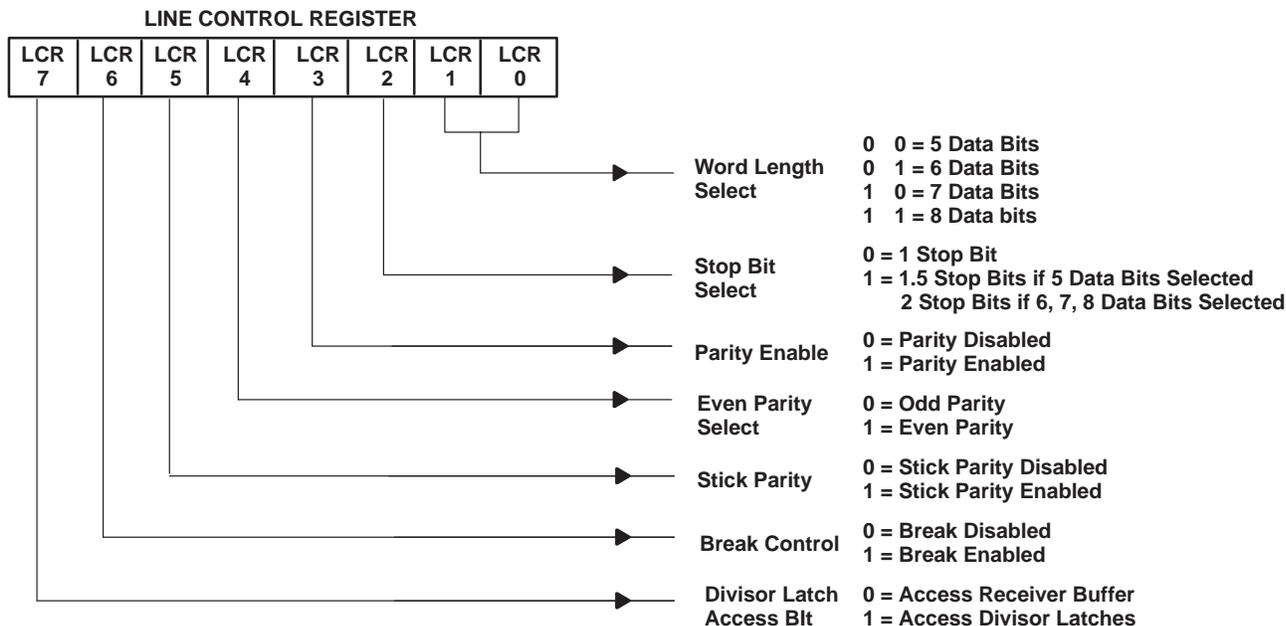

Figure 15. Line Control Register Contents
The format of the data character is controlled by the LCR. The LCR may be read. Its contents are described in the following bulleted list and shown in Figure 15.
- Bits 0 and 1: LCR0 and LCR1 are word length select bits. These bits program the number of bits in each serial character and are shown in Figure 15.